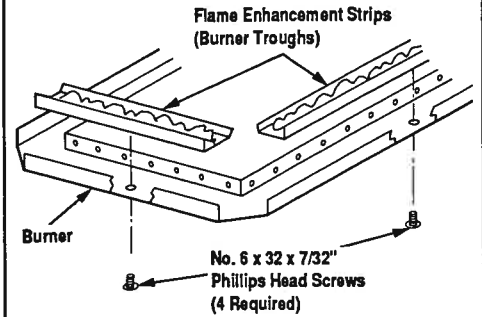

Figure 45
Step 10. Attach burner trough assemblies to the burner assembly with the No. 6-32 x 7/32" Phillips head screws. Secure burner troughs with screws from the underside of burner (Figure 45). It is important to orientate the burner troughs so that the white colorization material faces towards the center of the burner.